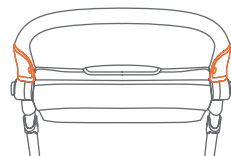

Fig. 9
- 9) • Attach the parent tray to the frame by wrapping the ends of the parent tray over the handles of the frame and snapping the strap buttons closed (Fig. 9).